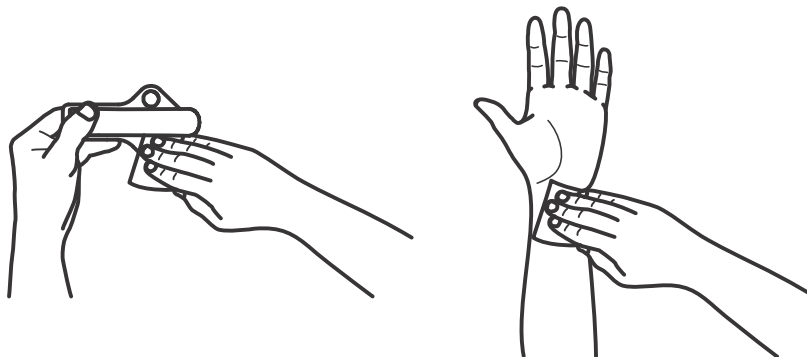

Fig. 4
8.4.4. Wipe with damp cosmetic tissue the inner surface of the wrist in the place of the contact with the electrode and the electrodes of the measuring unit, as shown in Fig. 4.